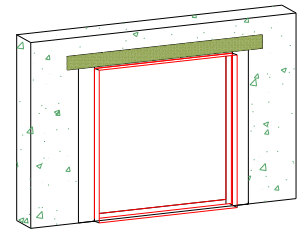

Figure 9
C. Finally, at the door head, embed the flashing into the sealant on the mounting flange and fasten into place. The flashing paper should be cut sufficiently long enough to extend past the flashing paper at each jamb by at least 3 in. (See Fig. 9)